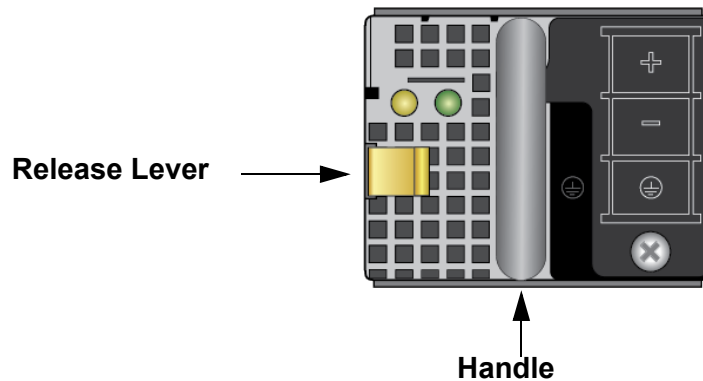

Figure 152. Front Panel of the PWR600 DC Power Supply
6. Press the release lever to the right and pull on the handle to release the power supply from the internal connector in the switch. Refer to Figure 152.